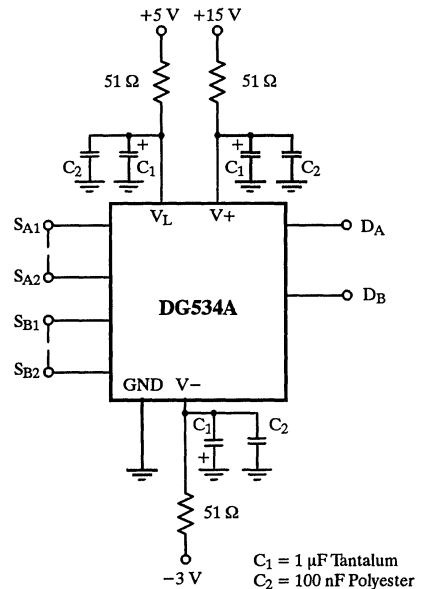

Figure 14. DG534A Power Supply Decoupling
- Additional high frequency protection may be provided by 51- Ω carbon film resistors connected in series with the power supply pins (see Figure 14).